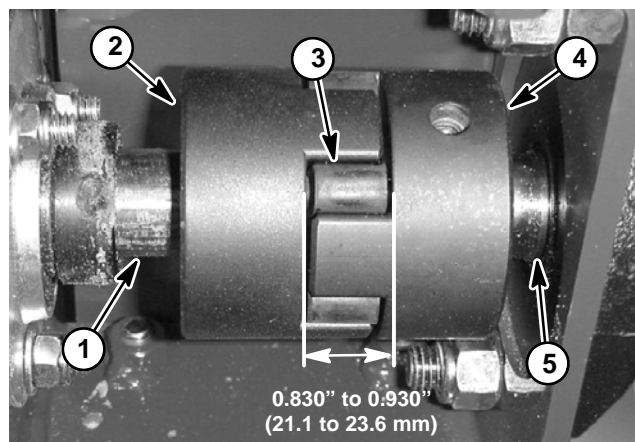

Figure 15
4. Align motor shaft with brush shaft. Secure brush motor to frame with two (2) cap screws (item 13), flat washers (item 6) and lock nuts (item 5). Torque lock nuts from **94 to 116 ft-lb (128 to 157 N-m)**.
5. Position coupling jaw on motor shaft to allow a gap between coupler jaw valleys from 0.830" to 0.930" (21.1 to 23.6 mm) (Fig. 15). Apply Loctite #242 (or equivalent) to threads of coupling set screw. Secure coupling jaw to motor shaft by torquing set screw from **61 to 85 in-lb (6.9 to 9.6 N-m)**.